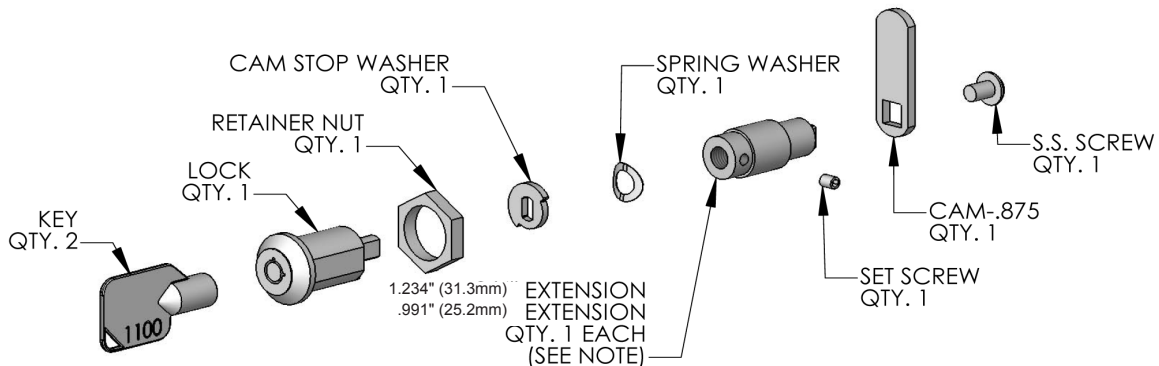

Figure 30
Two (2) lock extensions are supplied with the lock. Use the longer extension for a 3/4" thick overlay panel and the shorter one for a 5/8" thick panel. Assemble the lock extension, cam stop washer, spring washer, and set screw to the lock as shown in Figure 30 and 31.